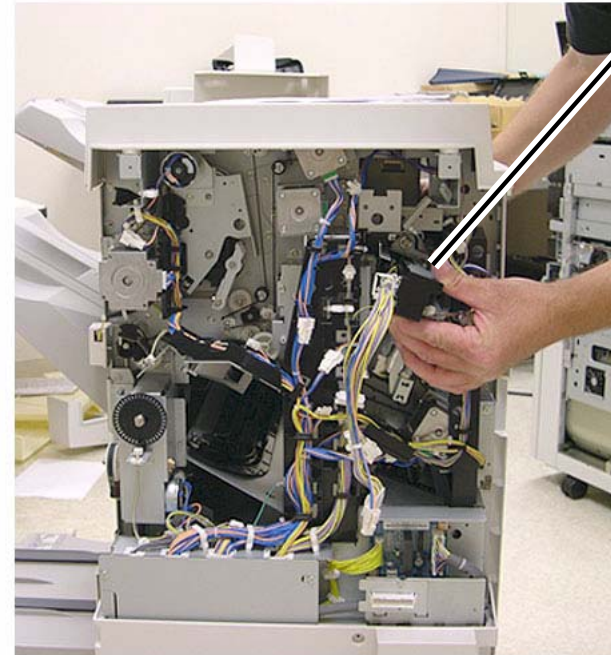

Figure 4 Removing the Punch Frame Assembly
8. Remove the Punch Frame Assembly from the printer (Figure 4).